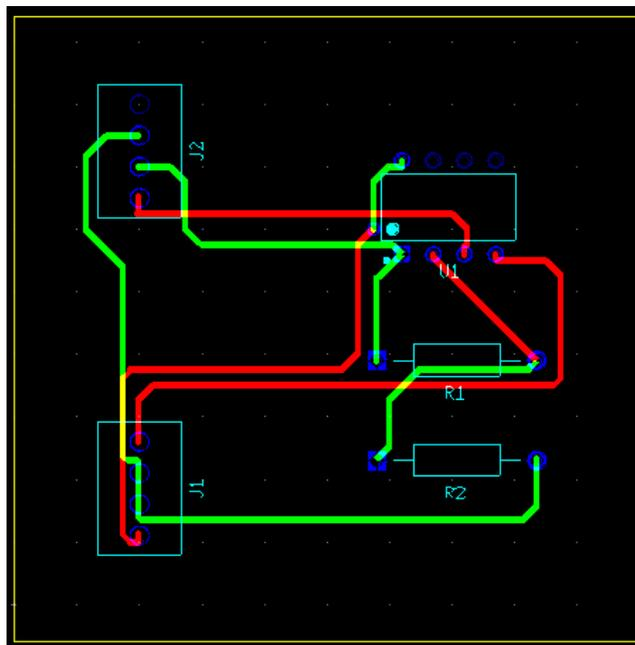

Figure 17. Routed board.
4. Finish placing traces for the rest of the connections. Your board should look like Figure 17.